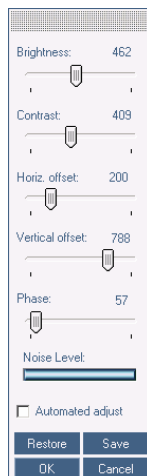

Figure 17 Manual Video Adjustments controls
1. Click Manual Video Adjust. A slider bar appears. See Figure 17. Also a red frame appears around the screen. This represents the screen area according to the Server's screen resolution. Perform the adjustments inside and relative to this frame.